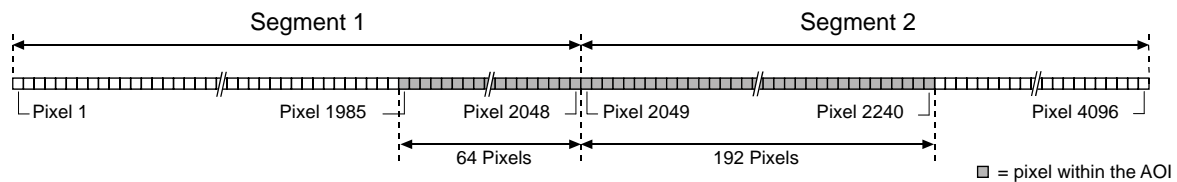

Fig. 30: AOI Falling Across Segments
- Suppose that for a 4k camera, the AOI starting pixel is set for 1985 and the length is set for 256. With these settings, the AOI falls across the two sensor segments as shown in Figure 30.